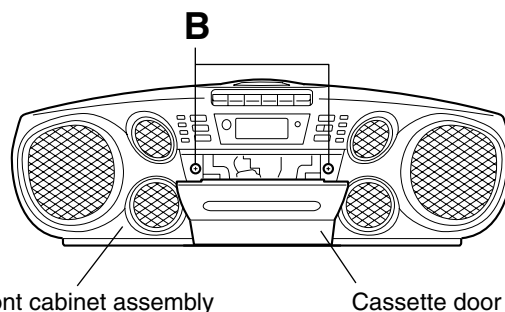

Fig.3
2. Open the cassette door. (See Fig.3.)
3. Remove the two screws **B** retaining the front cabinet assembly. (See Fig.3.)